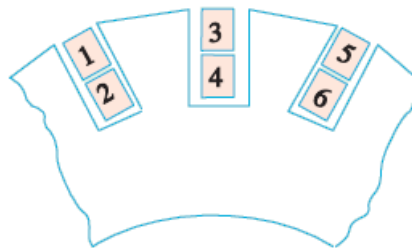

Fig. 23, Double-layer windings
*Double-layer:* In this type of winding, there are two coil sides per slot arranged in two layers. The coil side of one coil is placed in the upper layer of one slot (represented by solid line), while the other coil side is placed in the lower layer (represented by dashed line) of another slot (Fig. 23).